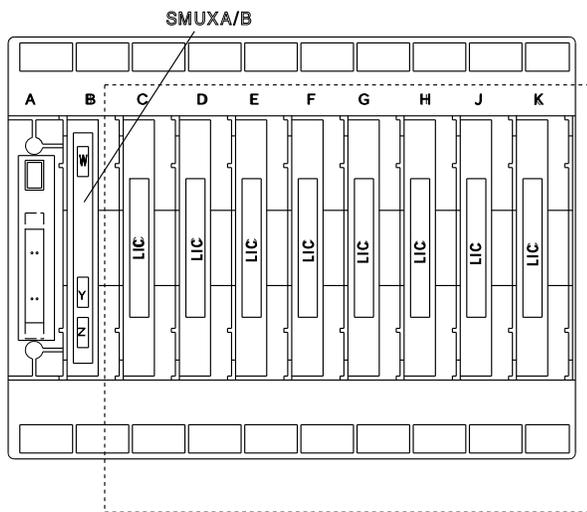

Figure 4-52. SMUX Location
4. For the SMUX location, refer to Figure 4-52.